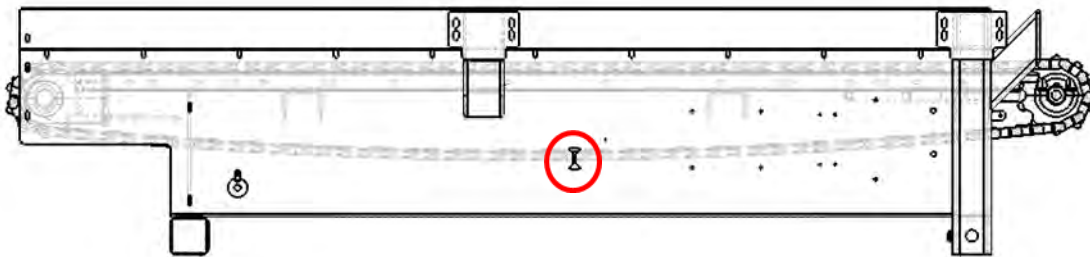

Figure 7-1b: Floor with Hourglass Cutout Visible
Figure 7-1 shows the correct slack wanted during use. Dimension (A) is measured from the bottom of the slacked chain to the underside of the floor panels off the side of the second to end floor joist, on the side facing the adjustment rod. When the machine is not running and at a standstill Dimension (A) should measure 8.75 inches (22.23 cm). A quick reference guide can be seen in Figure 7-1b, if the chain is visible in the hourglass cutout then chain tension is within tolerance. For exact tension, however, refer to previously stated dimension (A).